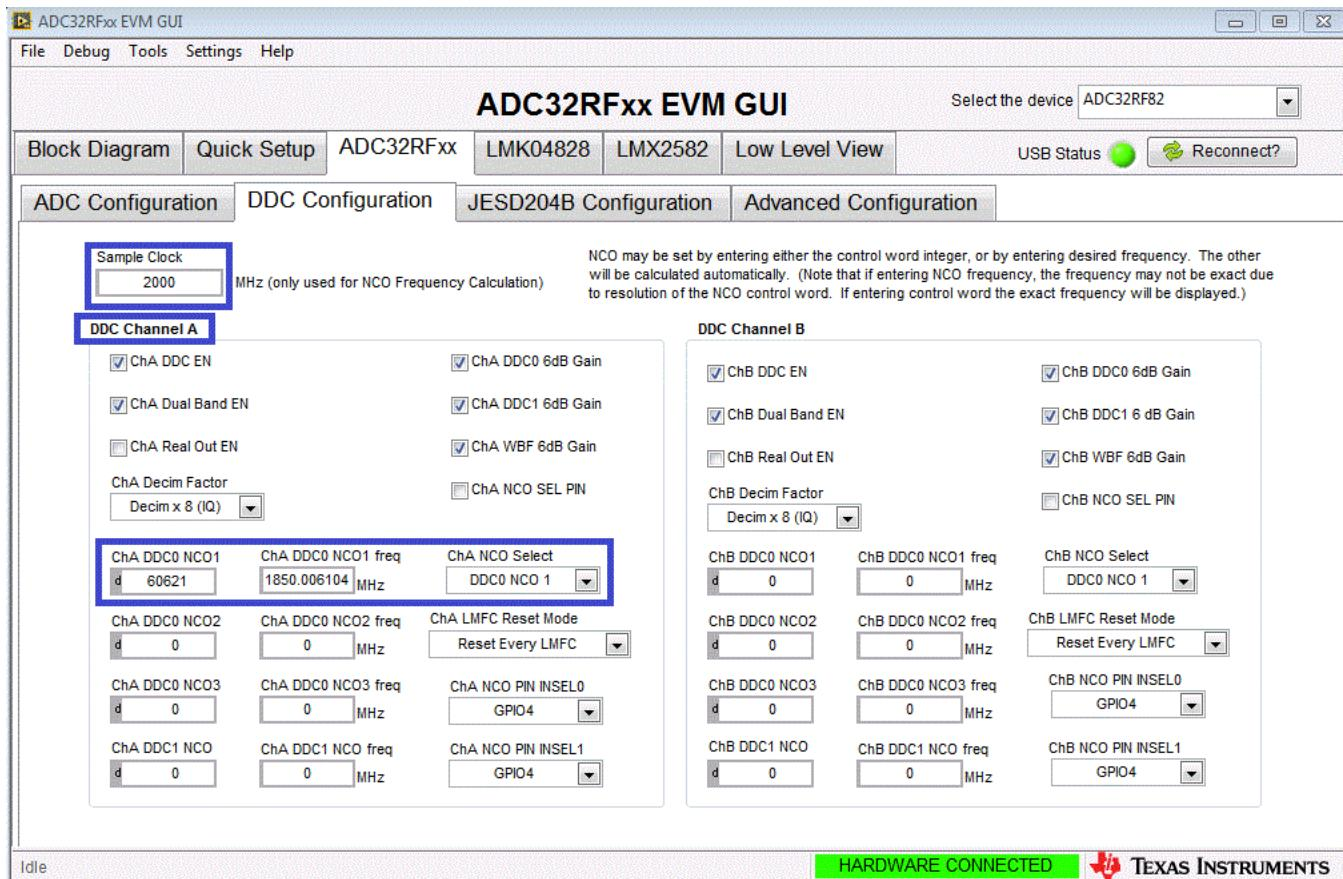
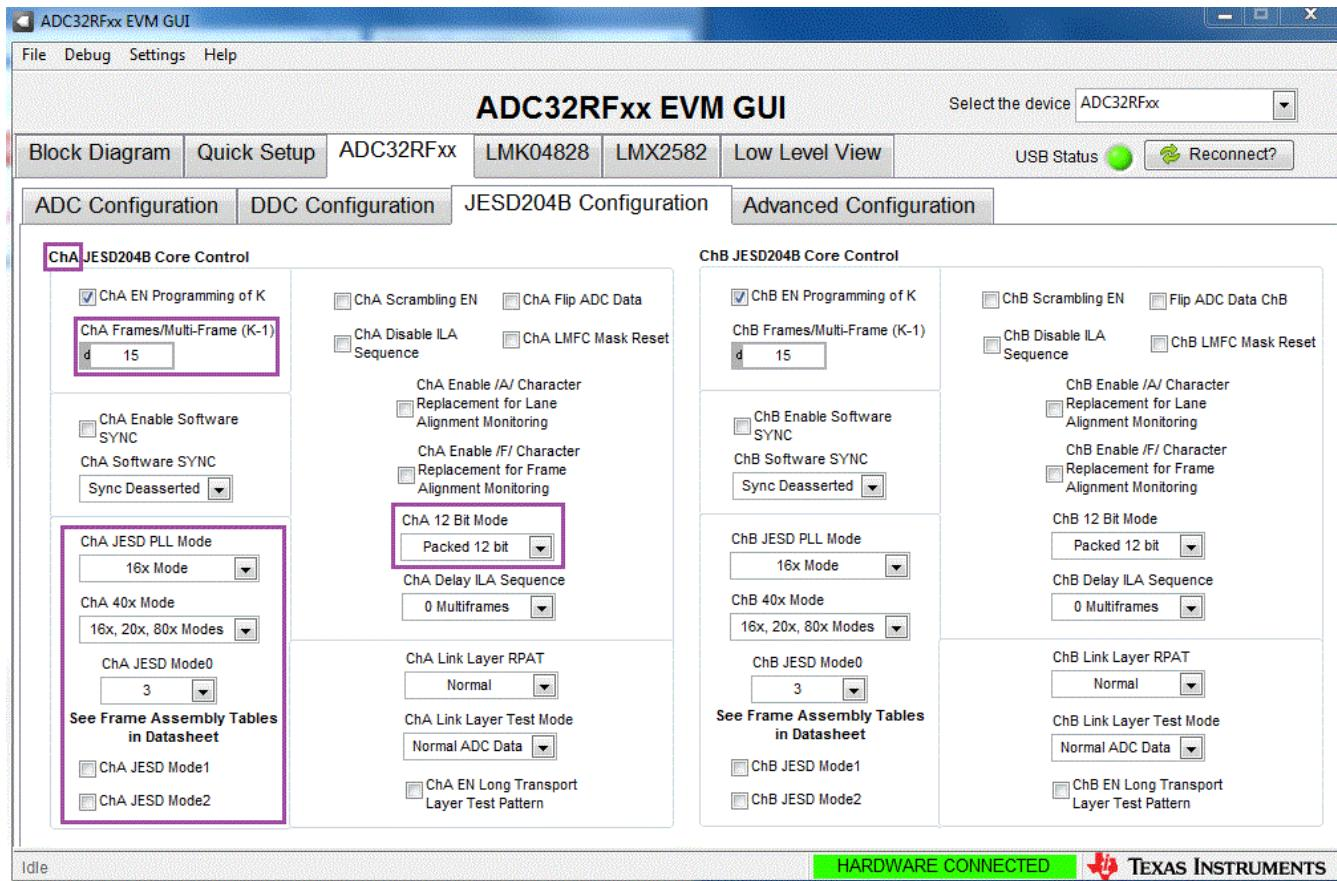

Figure 4. ADC32RFxx-EVM Quick Setup View Bypass Mode
Figure 5. ADC32RFxx-EVM GUI JESD204B Tab Bypass Mode
11. After pressing the **PROGRAM EVM** button, the device will be configured as shown in Figure 4 and Figure 5 indicating the 12 bit packed 5 sample mode for LMFS82820.